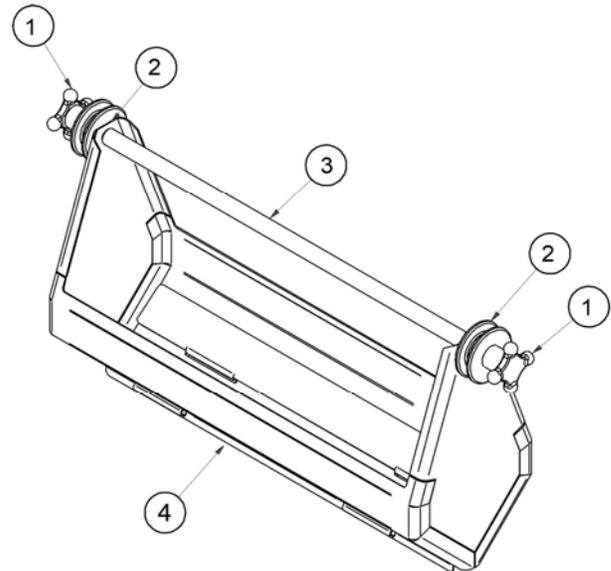

Figure 1-5. HGEZ Glaze applicator
- a. The handles (1), rollers (2), and shaft (3) are attached to the top of the glaze applicator. See Figure 1-5.
- b. Install the applicator gates (4) by inserting the tabs, curving upwards, into the applicator slots from the inside and rotating to hold in place.